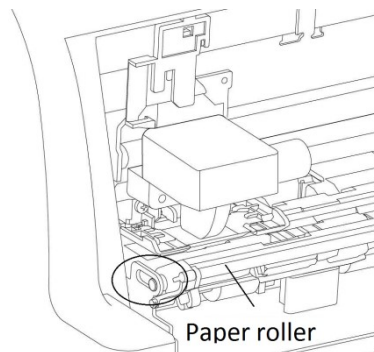

Fig. 1-6
- 3) Pull out the paper roller cage horizontally outward to the maximum, flip it upwards to the position as Fig. 1-6, and move the printhead leftward to the place which is near the left rack about 1cm.